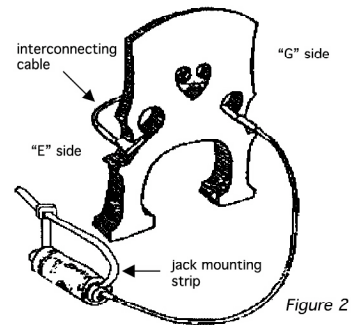

Figure 2
**INSERTING PICKUP:** (Refer to figure 2 for correct position for pickups.) Remember, the interconnecting wire should pass over the top or finger board side of the bridge. Keep wires away from contact with the soundboard, bridge, or strings to prevent buzzes or rattles. Avoid flexing of the wire near the pickup cases to prevent internal damage.